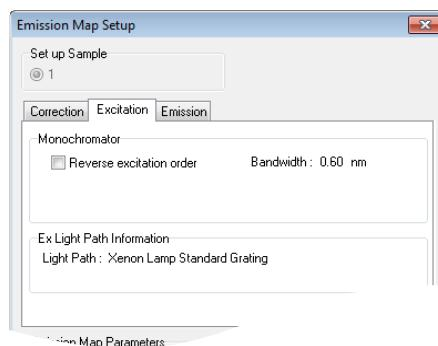

Figure 5-7: Emission Map Setup – Excitation
- Select the **Excitation** tab and decide whether the excitation should be stepwise increased – – unchecked tick box, or stepwise decreased – checked tick box **Reverse Excitation Order** (refer to Figure 5-7). Use the latter option when there is a risk for noticeable photo-degradation of the sample during the long measurement time. Starting at longer wavelengths (lower excitation energies) reduces the impact of photo-degradation on the measurement.